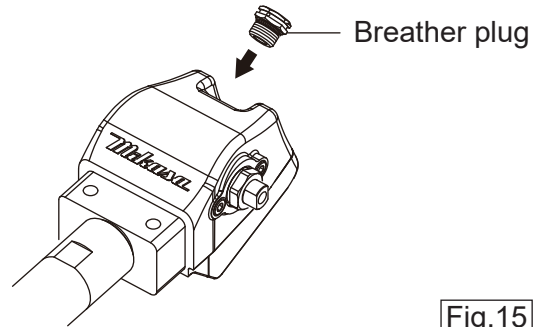

Fig.15
- g. Install the breather plug.(Fig.15)